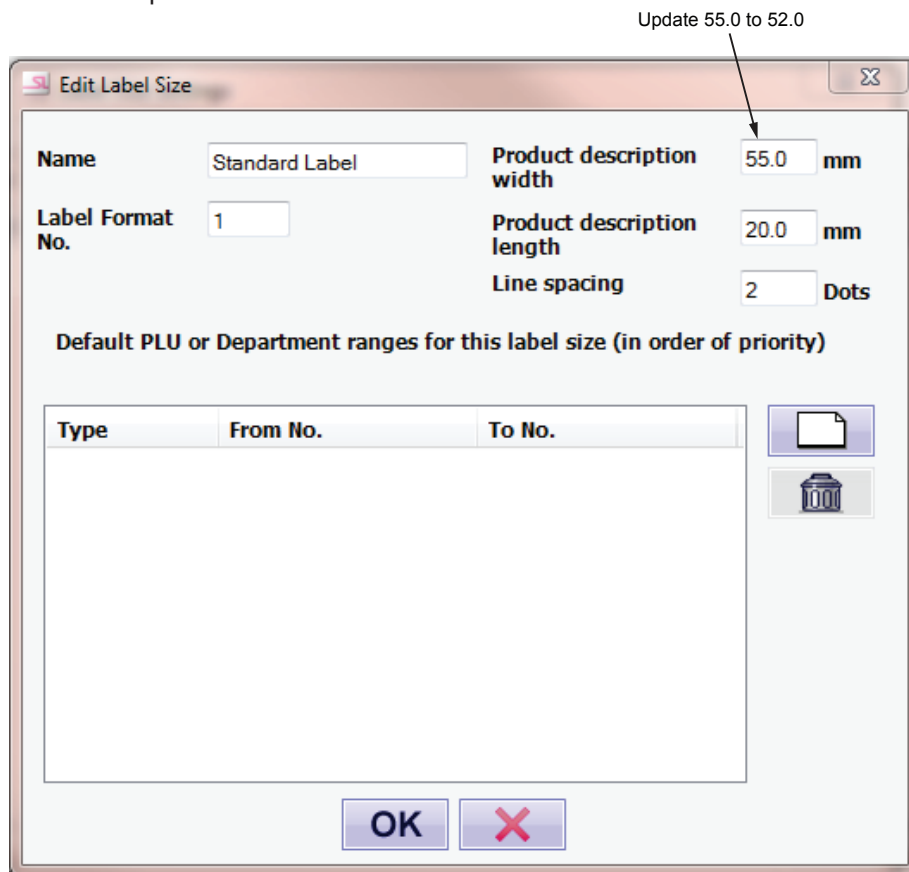

Figure 11-2
6. The Edit Label Size dialog box will display. See Figure 11-2.